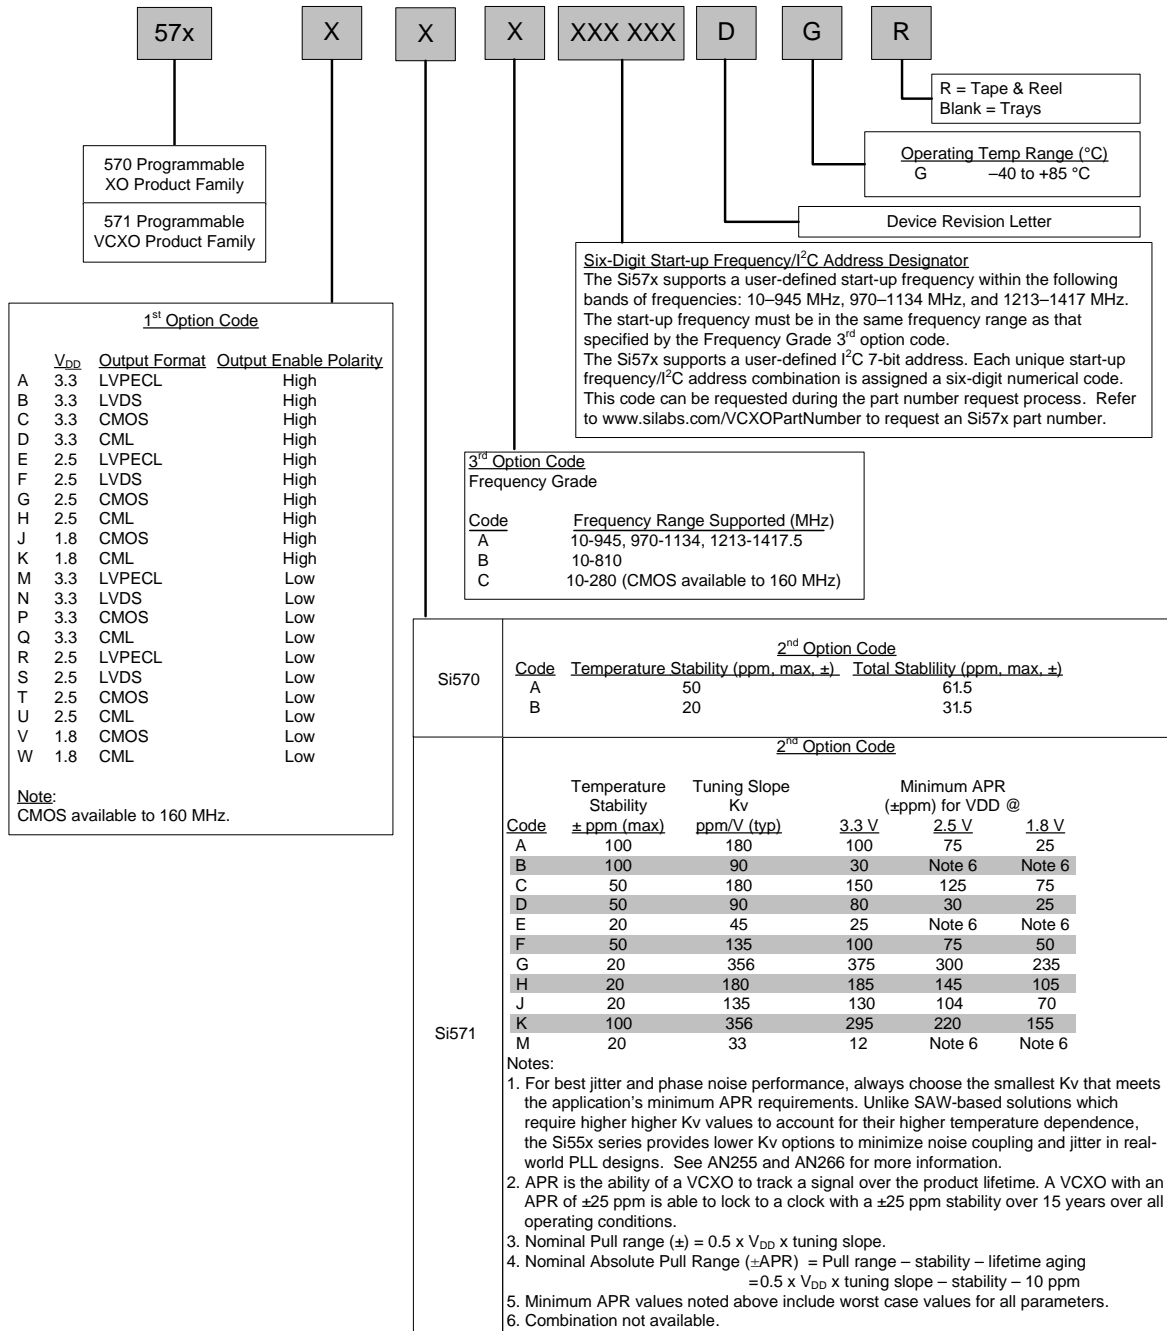

Figure 6. Part Number Convention
- Updated Figure 6, “Part Number Convention,” on page 24.